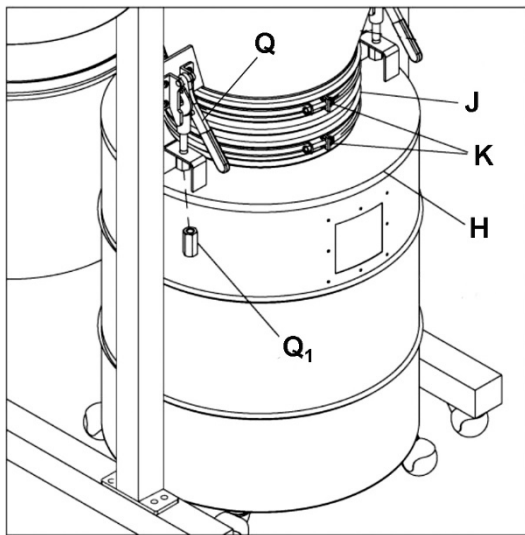

Figure 12
17. Install hose (J) onto cone and drum lid and secure with two hose clamps (K), at top and bottom. See Figure 12.
20. Pull down both quick levers (Q, Figure 12) then assemble drum lid (H, Figure 12) to quick levers. Tighten long nut (Q₁, Figure 12) onto each quick lever.